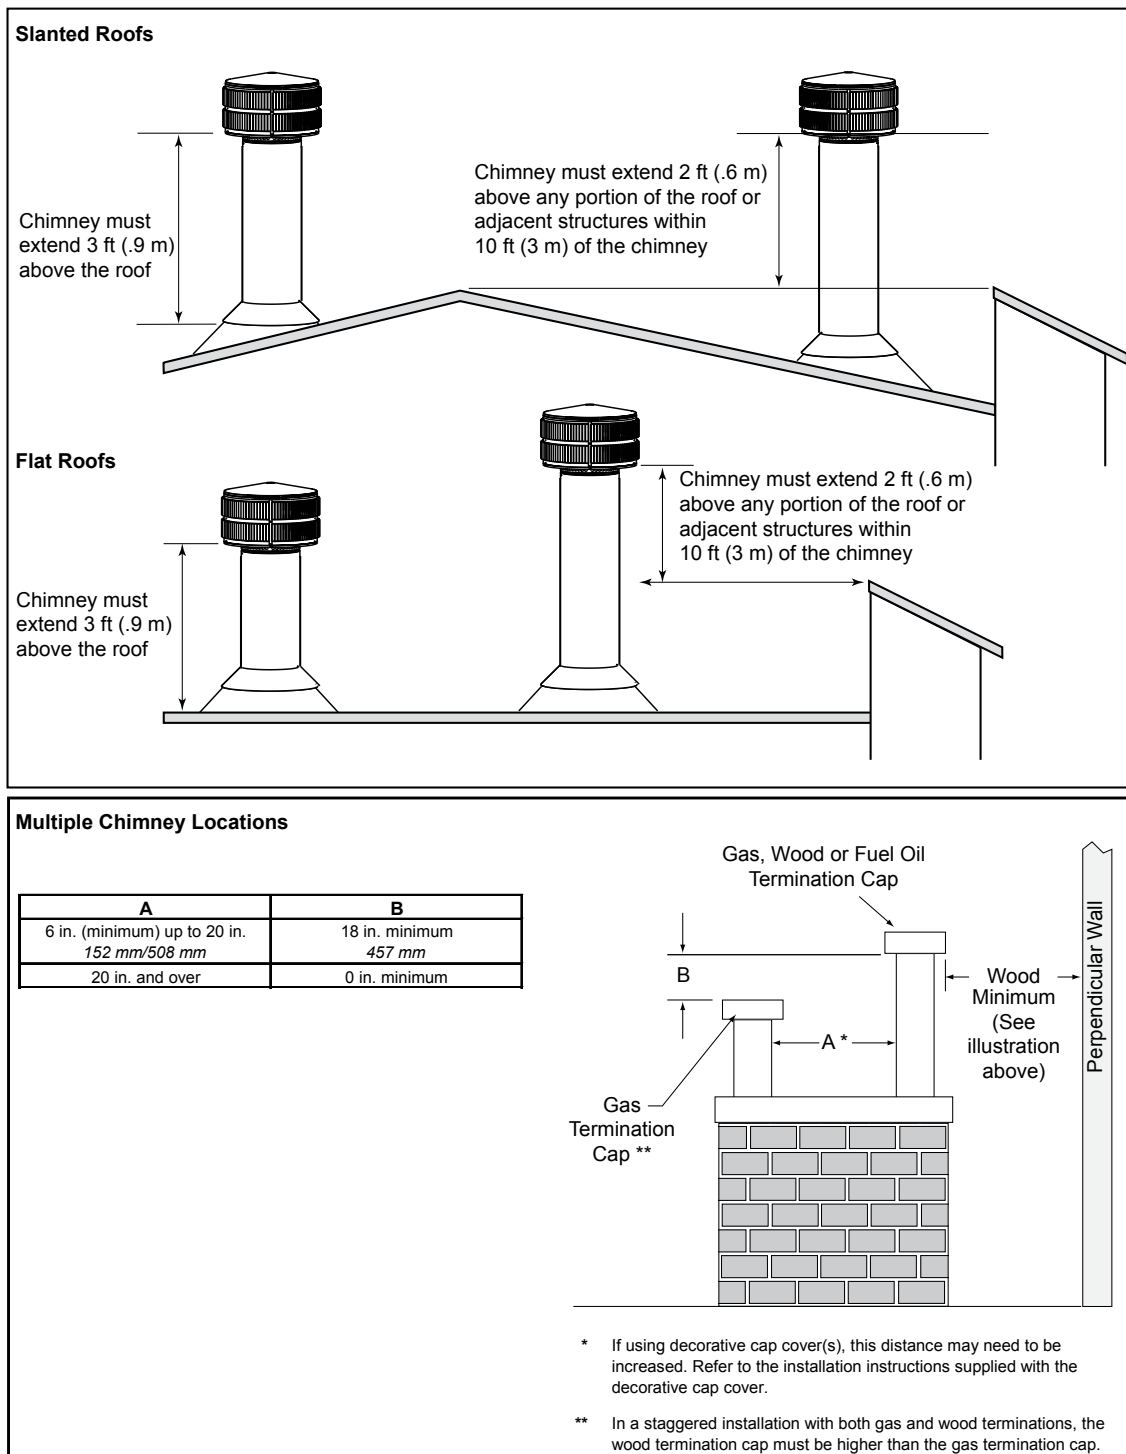

Figure 5.3 Multiple Chimney Locations
- The bottom of the termination cap must be at least 3 ft (.91 m) above the roof AND at least 2 ft (.61 m) above any portion of roof within 10 ft (3.05 m) as shown in Figure 5.3.
- The distance required between caps is shown in Figure 5.3.